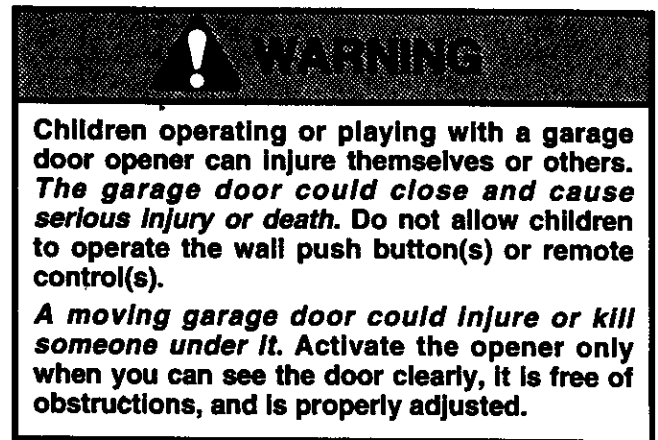

Figure 1
2. Press and *hold* the selected remote control push button, Figure 1.